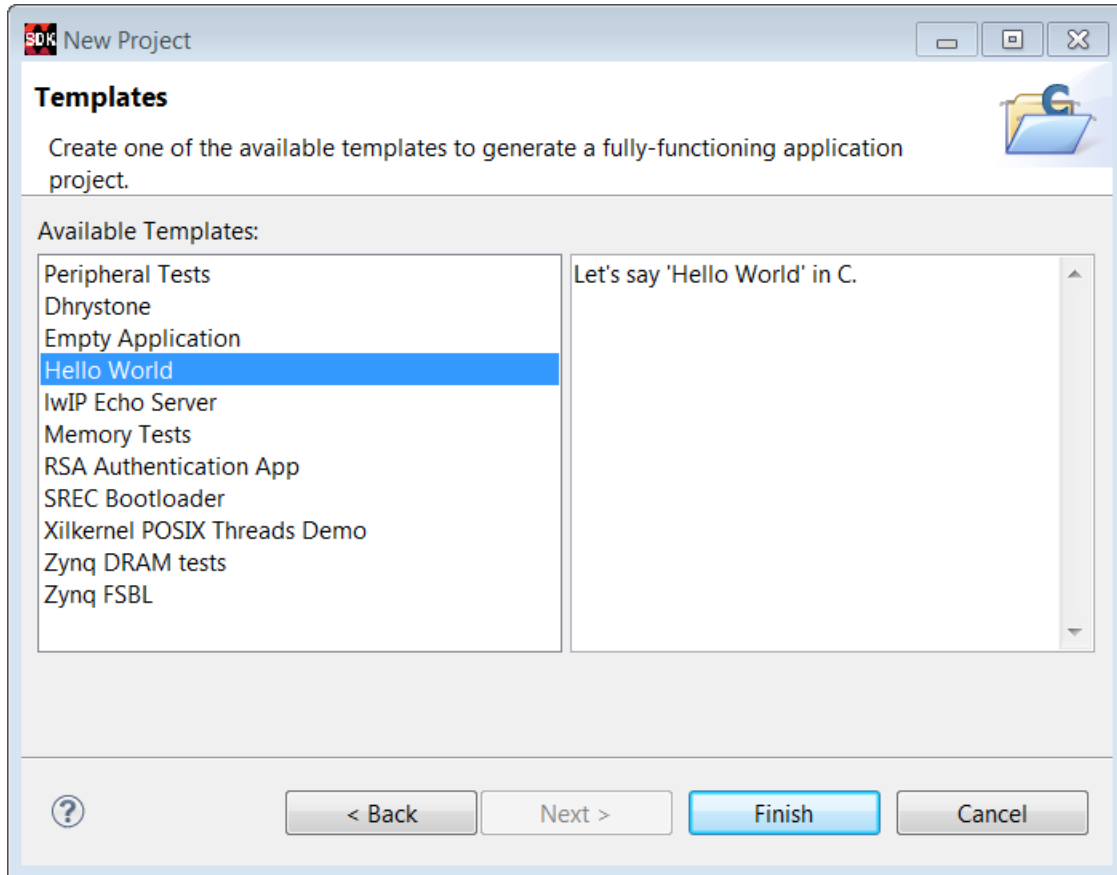

Figure 127: New Project: Template Wizard
6. Select the **Hello World** application template, and click **Finish** (FIGURE 127).